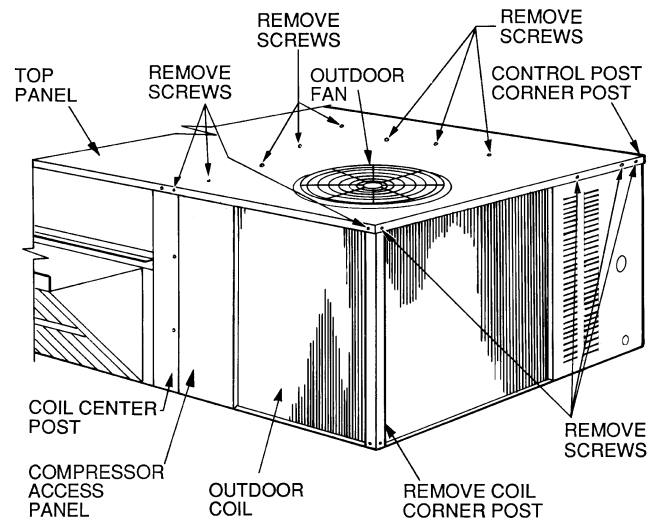
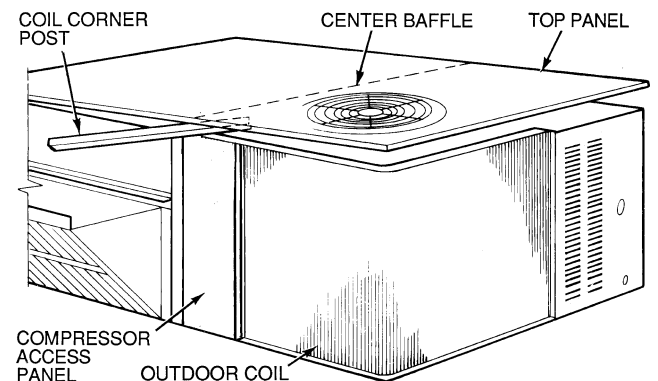

Fig. 35 — Cleaning Outdoor Coil
Fig. 36 — Propping Up Top Panel
3. Remove outdoor coil corner post. See Fig. 35. To hold top panel open, place coil corner post between top panel and center post. See Fig. 36.